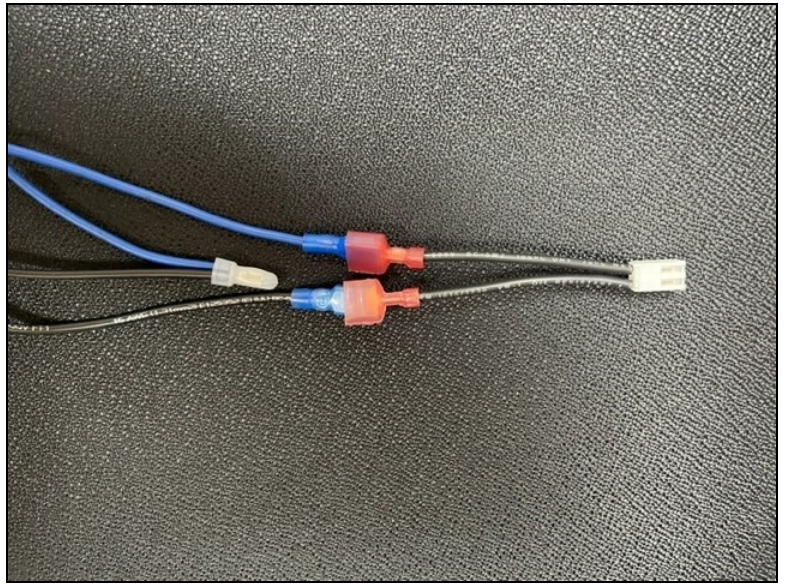

Figure 9- Connecting Wires
- If your unit is equipped with an "LP" switch, the "LP" switch and "HP" switch must now be wired in series. See Figure 9.